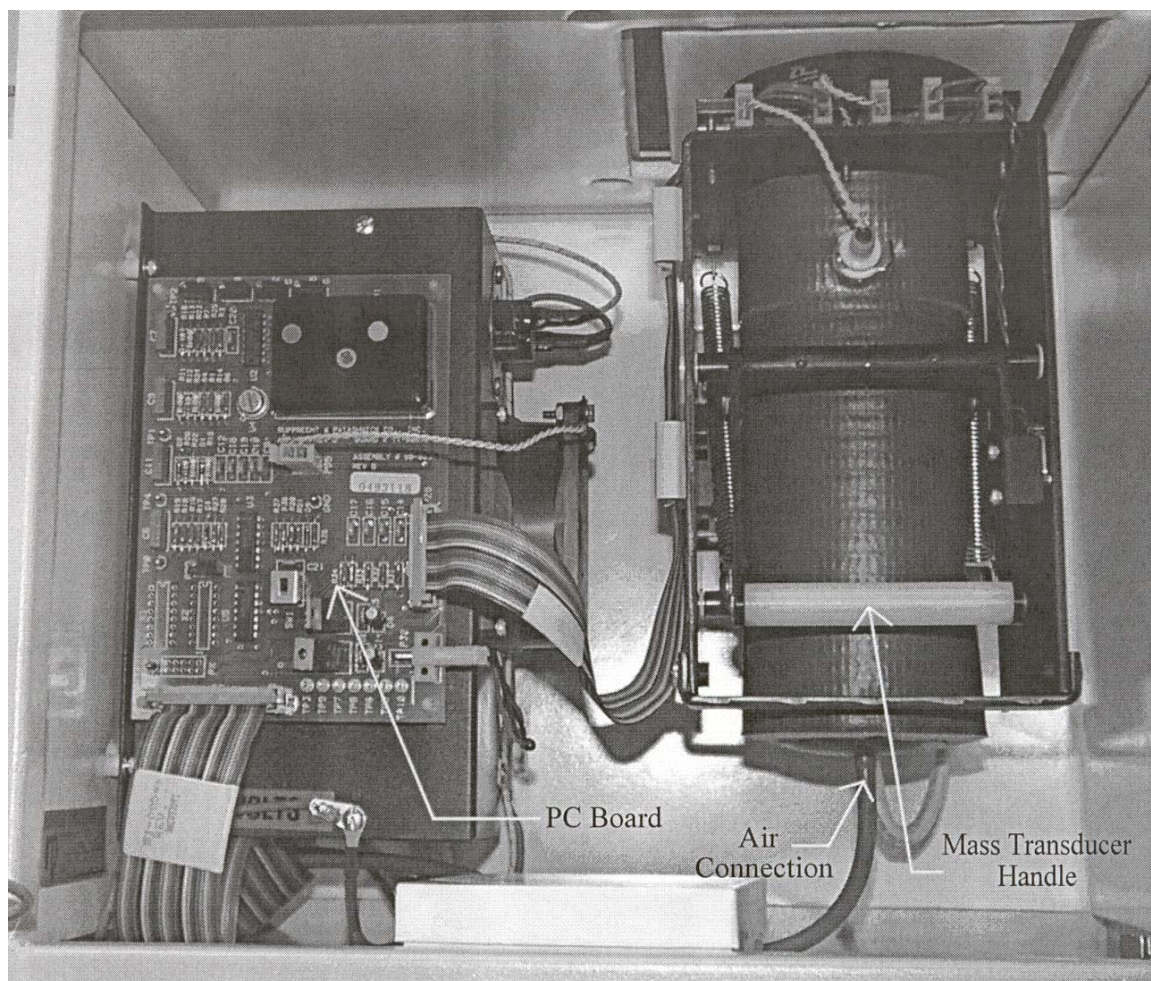

Figure V.2.0.3
- c. Open the door of the sensor unit. (See Figure V.2.0.3).
- d. Locate the horizontal black handle on the mass transducer (shown in its upward position in Figure V.2.0.3) and carefully lift this handle upward, keeping one hand on the lower bar for support. The mass transducer will swing into its filter changing position, exposing the filter cartridge. When the mass transducer is in this open position, the tapered element automatically stops vibrating to facilitate filter exchange.